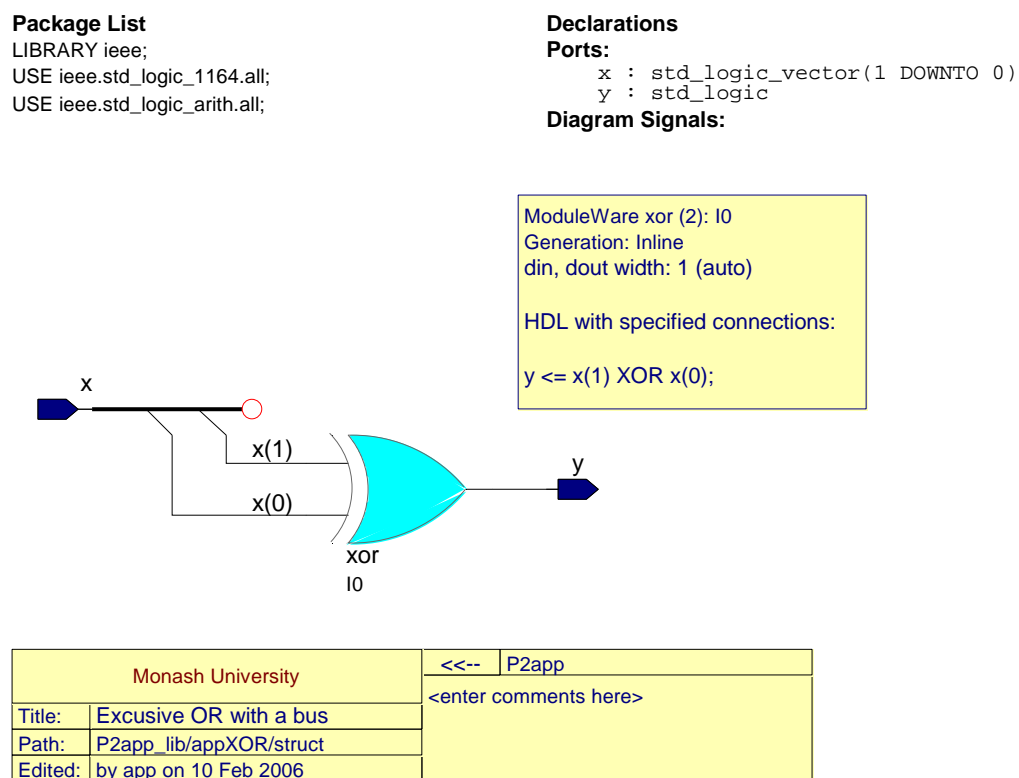

Figure 1: An exclusive-OR with a bus
We aim at obtaining the diagram as in Figure 1.
- After moving items around you should have the diagram exactly as in Figure 1.
- Add to your block-diagram of Figure 1 a NAND and a NOR gate.